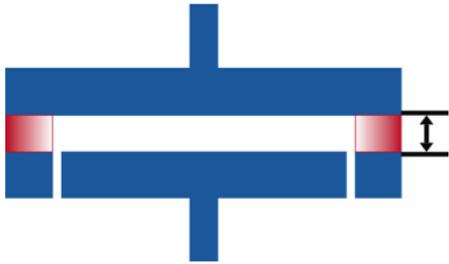
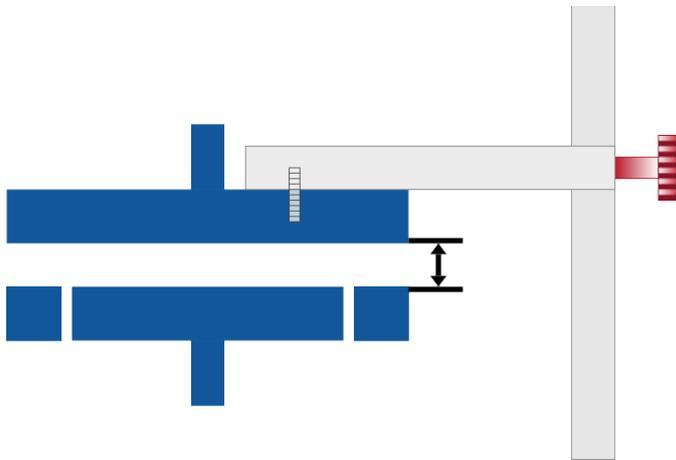

Figure 7: Adjusting the air gap height by using a spacer
Figure 8: Adjusting the air gap height by using a locking screw
- Depending on your test cell type, insert either a spacer between the electrodes (as shown in Figure 7) or adjust the electrodes to a defined distance, fix them into position with a locking screw (as shown in Figure 8) and measure the air gap height.